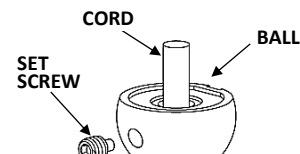

Fig. 4
- Attach BALL to STEM as shown in Fig. 4.